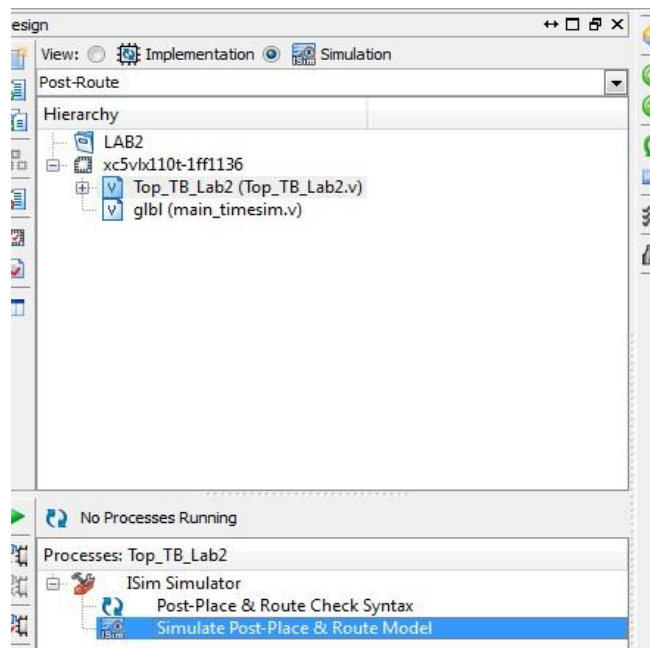

Fig. 11: Post place and route timing simulation
14. Generate post place and route simulation model and perform post route simulation as shown in Fig. 11. In the Isim window, type **run all** at Isim prompt i.e. **Isim > run all**